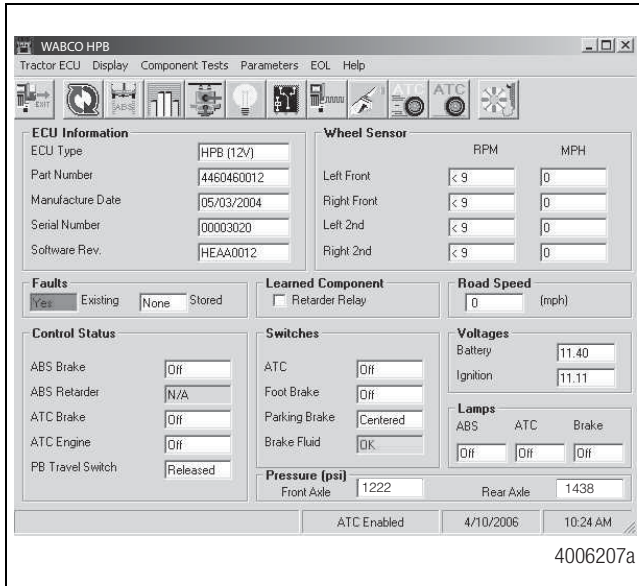

Figure 6
- With pressure on the master cylinder reservoir, reconnect the batteries. After reconnecting the batteries, turn the ignition on. Connect TOOLBOX™ Software to the vehicle. Use this software to verify pressure is building correctly. Figure 6.